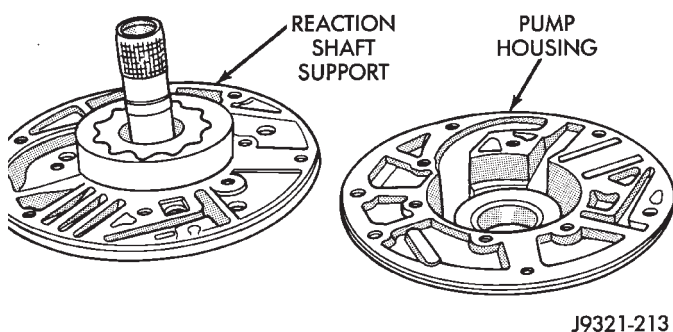

Fig. 120 Separating Pump Housing From Reaction Shaft Support
(4) Separate support from pump housing (Fig. 120).